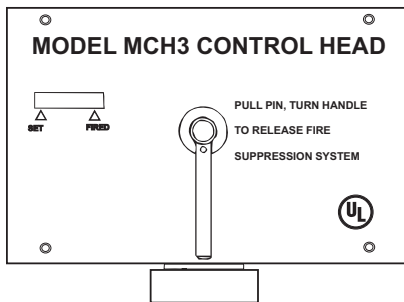

FIGURE 5
The Model MCH3 mechanical control head is a fully mechanical control head which can be connected to the A-15/17/25/35/50/70 tank valve. This control head will support a fusible link detection system, a remote mechanical pull station (Model RPS-M), and an electric gas shut-off valve. A micro switch (Model MS-SPDT, MS-DPDT, MS-3PDT, or MS-4PDT) can be ordered separately and field installed. It is equipped with a local manual control handle that allows for mechanical system actuation. Operation of the local manual control requires removing the pull pin and rotating the handle clockwise. The Model MCH3 control head can actuate a maximum of five (5) tanks. See Figure 5.